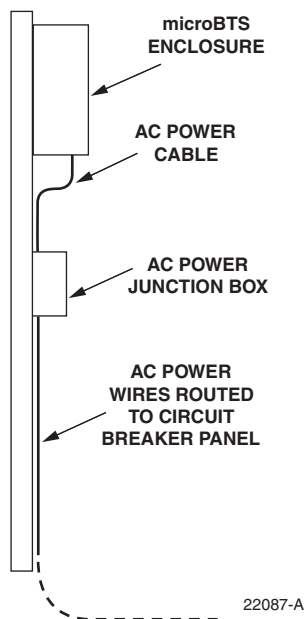

Figure 4-5: Typical AC Power Cable Routing
- 2 Route the power cable between the AC power port, located on the underside of the enclosure and the nearest AC power junction box as shown in Figure 4-5. It may be necessary to install a new junction box if an existing junction box is not available.